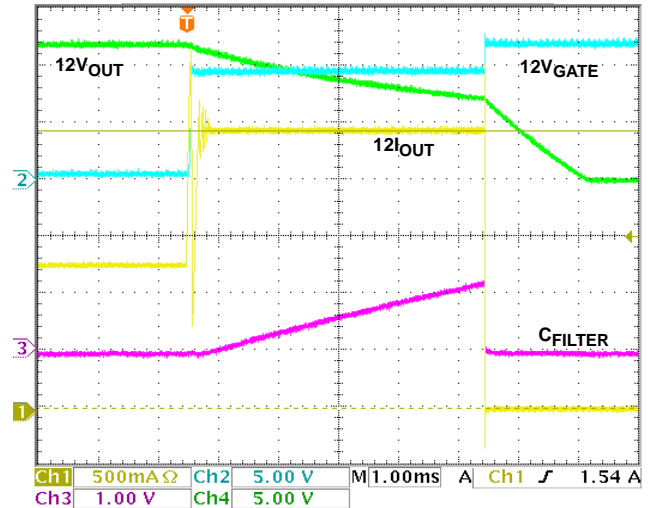
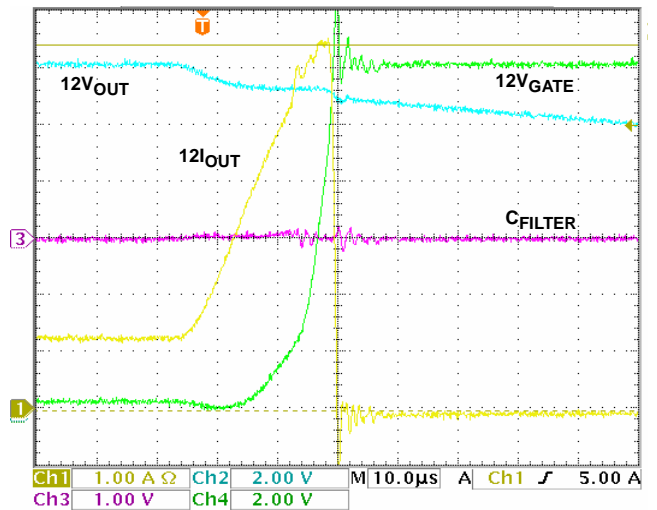

FIGURE 8. 12VMAIN CR AND SHUT-DOWN
FIGURE 10. 12VMAIN WOC SHUT-DOWN
For each of the 3VMAIN and 12VMAIN supplies, the current regulated (CR) levels are set by a sub ohm value sense resistor. The value for the 12VMAIN is dependant on the size of the PCI-Express connector (X1, X4/X8 or X16) to be powered. The voltage across this resistor is compared to a 50mV internal reference providing a nominal CR protection level which would be set above the maximum specified slot limits. The 3.3VMAIN supply can use a 15mΩ sense resistor compared to a 50mV reference to provide a nominal regulated current limit of 3.3A, as this supply has a common 3A maximum across all slot sizes. For both MAIN supplies, there is a Way Overcurrent (WOC) shutdown protocol that is without a CR duration. WOC is invoked if the load current causes the RSENSE voltage to be >100mV. See Figures 10 and 11.
The ISL6112 provides a current regulation and limiting function that protects the input voltage supplies against excessive loads, including short circuits. When the current from any of a slots MAIN outputs exceeds the current limit threshold ($I_{LIM} = 50mV/R_{SENSE}$) for a duration greater than t_{FILTER} , the isolation protection is tripped and both related MAIN supplies are shut off, as shown in Figures 8 and 9. Should the load current cause a MAIN outputs V_{SENSE} to exceed V_{THFAST} , the outputs are immediately shut off with no t_{FILTER} delay, as shown in Figures 10 and 11.